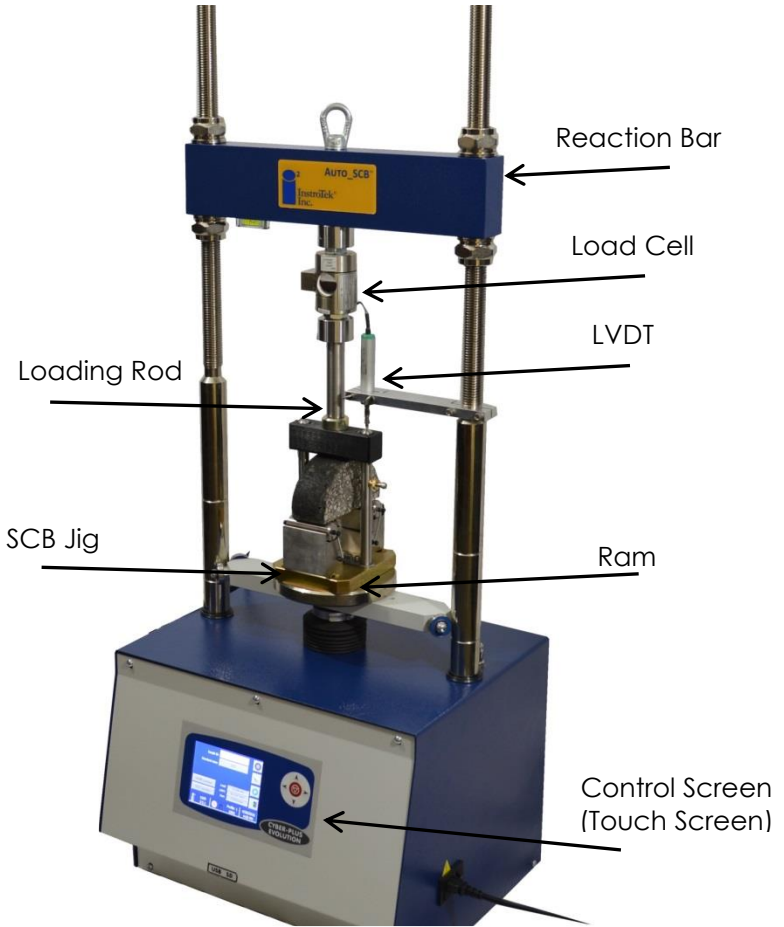

Fig 1. Auto_SCB™ Load Frame with SCB Jig
2. Mount the load cell onto the threaded rod with the I-bolt (as shown in Figure 1).
4. Mount the LVDT holder onto one of the reaction frame posts (as shown in Figure 1).